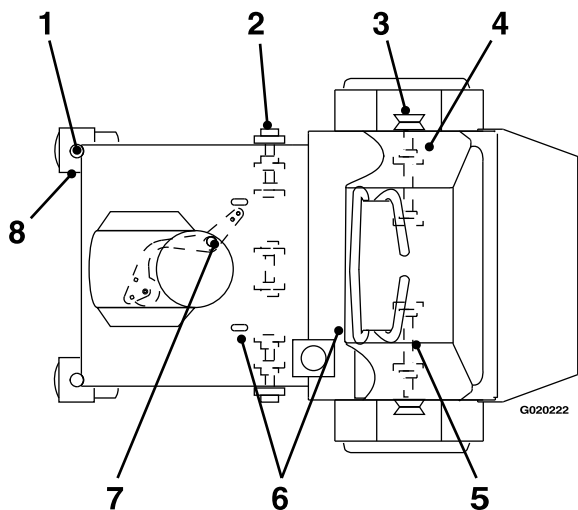

Figure 30
2. Wipe clean the grease fittings with a rag (Figure 30).
3. Connect a grease gun to the fitting (Figure 30).